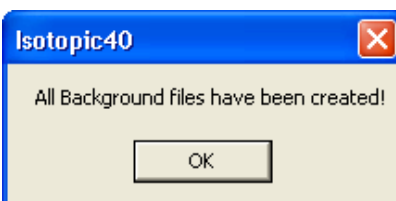

Figure 108. PBC Process Complete.
- ISOTOPIC will analyze the spectrum file, create an analysis (**.An1**) file and a **.PBC** file, and display the dialog shown in Fig. 108.